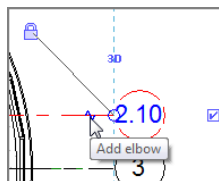

FIGURE 8.12: Clicking the Add Elbow grip after selecting the grid
2. Several blue grips appear. Pick the one that appears as a break line, as shown in Figure 8.12.